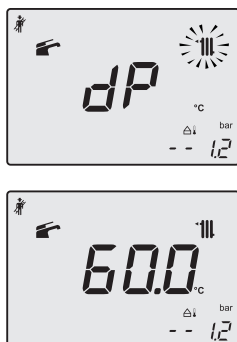

Fig. 10.27
- Press further key 19 to vary again the output in flue sweep mode: when the LCD display displays the letters **dP** that alternate with the heating water temperature value (e.g. **60**), the "flue sweep function" is at maximum output in domestic hot water mode" (Fig. 10.27).